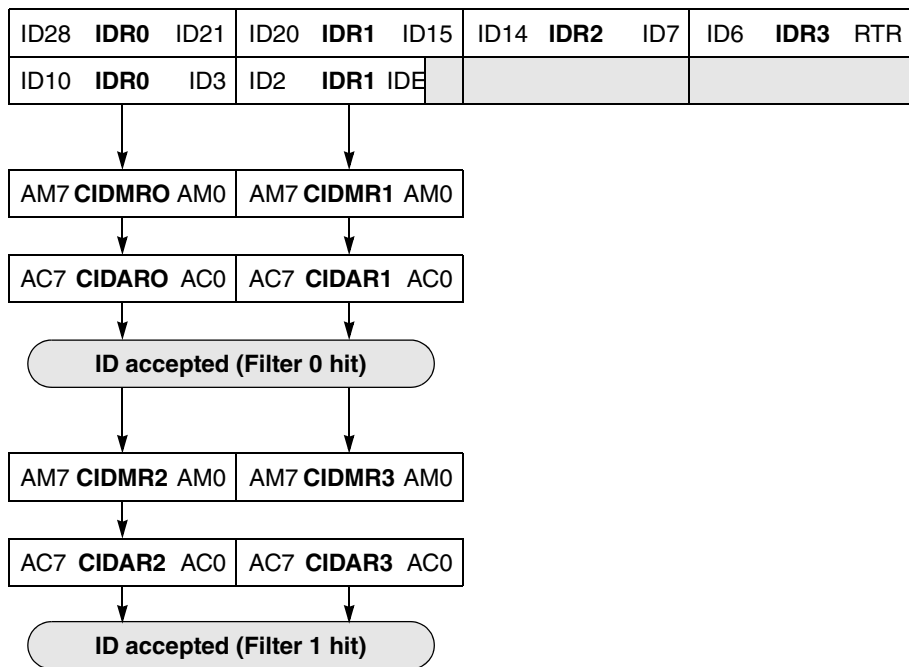

Figure 18-4. 16-bit Maskable Acceptance Filters
- Four identifier acceptance filters, each to be applied to a) the 11 bits of the identifier and the RTR bit of CAN 2.0A messages or b) the 14 most significant bits of the identifier of CAN 2.0B messages. Figure 18-4 shows how the first 32-bit filter bank (CIDAR0–3, CIDMR0–3) produces filter 0 and 1 hits. Similarly, the second filter bank (CIDAR4–7, CIDMR4–7) produces filter 2 and 3 hits.